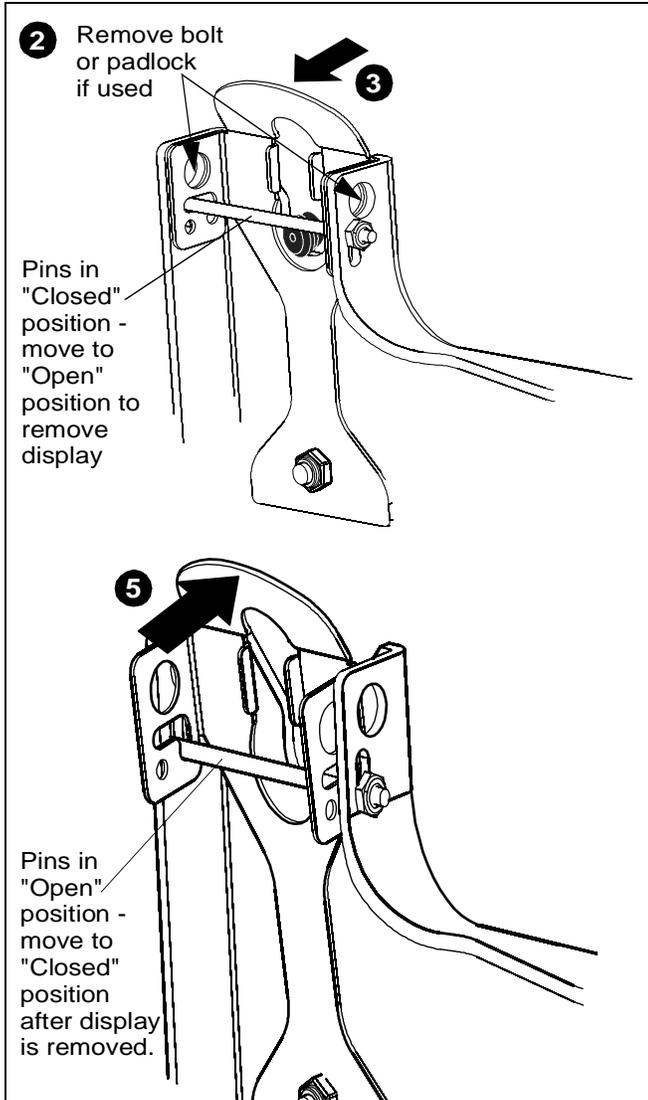

Figure 3
2. Remove bolt or padlock from faceplate (if used). (See Figure 3)
3. Pull back on flags on upper mounting holes and press pins down into "Open" position. (See Figure 3)
5. Lift up on pins and place flags back against faceplate to return it to "Closed" position. (See Figure 3)